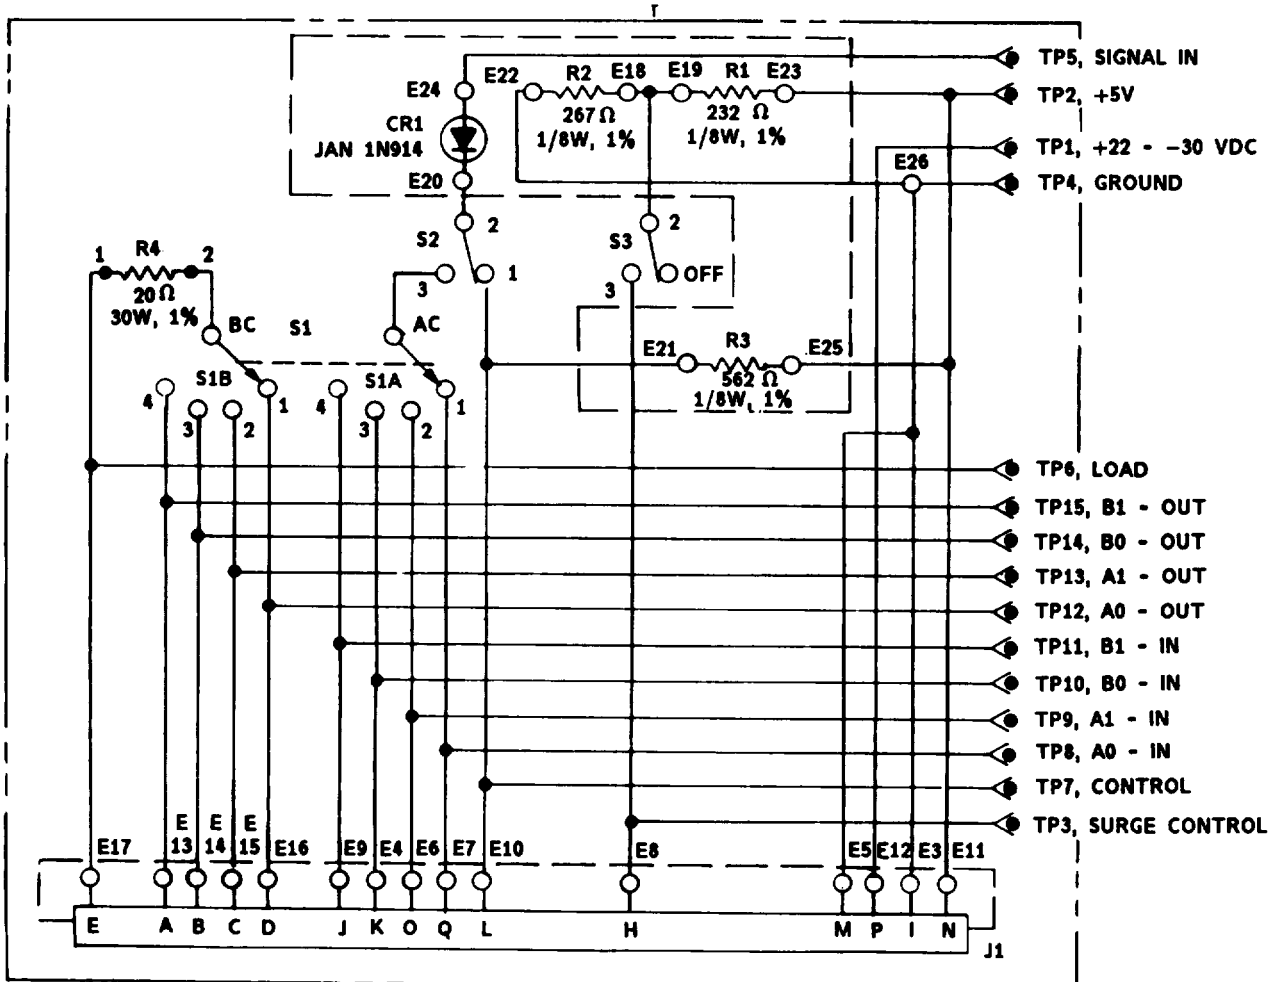

Figure 6-36. LINE-FEED (MOTOR DRIVE) CURRENT CONTROL TEST FIXTURE SCHEMATIC DIAGRAM
C. LINE-FEED (MOTOR DRIVE) CURRENT CONTROL TEST FIXTURE TEST PROCEDURES. (See figure 6-36. )